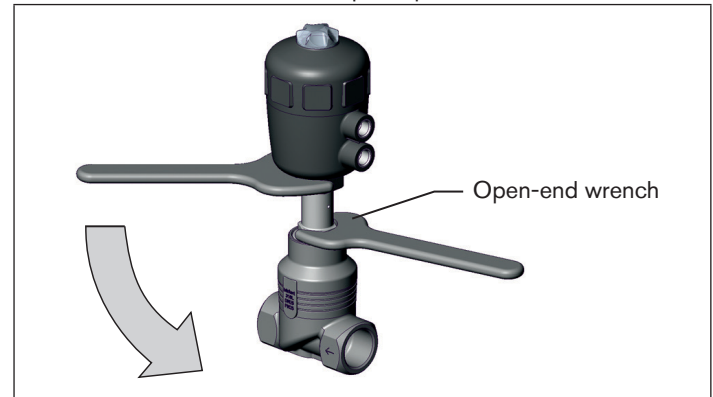

Fig. 19: Turning with open-end wrench
- ▶ Rotate the actuator module in the specified direction only (see “Fig. 19”).